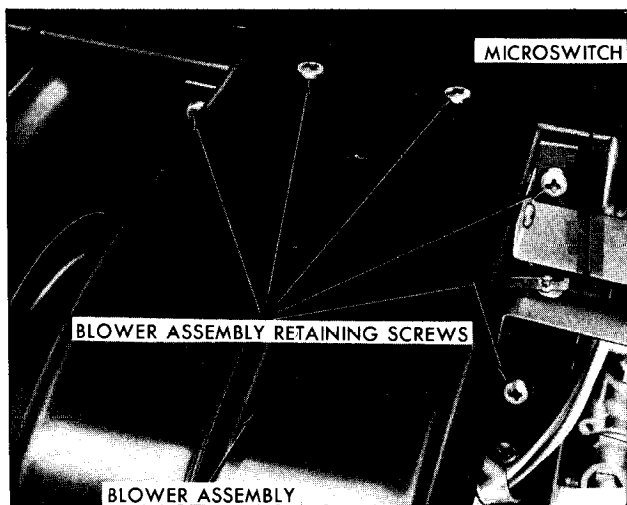

Figure 24—Blower Assembly Mounting Screws
4. Remove five screws holding blower assembly to furnace (figure 24).
9. Install the five screws holding blower assembly to the furnace shown in Figure 24.